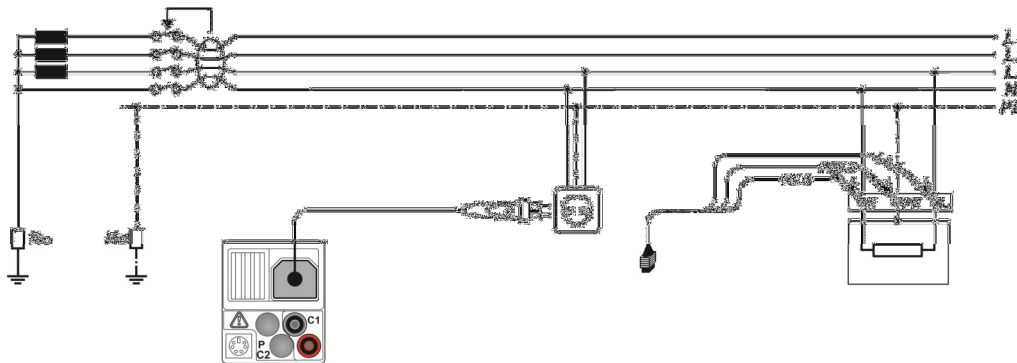

Figure 5.17: Connection of the optional "Commander" test plug (044149) and the three-wire test cable
- ❑ Connect the test cables to the test object (see figure 5.17).
- Connect the test cables to the test object (see figure 5.17).
<ul style="list-style-type: none"> □ Select the F/RCD function by means of the function selector switch. □ Set the sub-function to AUTO. □ Set the testing parameters. □ Connect the test cables to the test object (see figure 5.17). □ Press the "TEST" key to start the measurement. 	Start of test